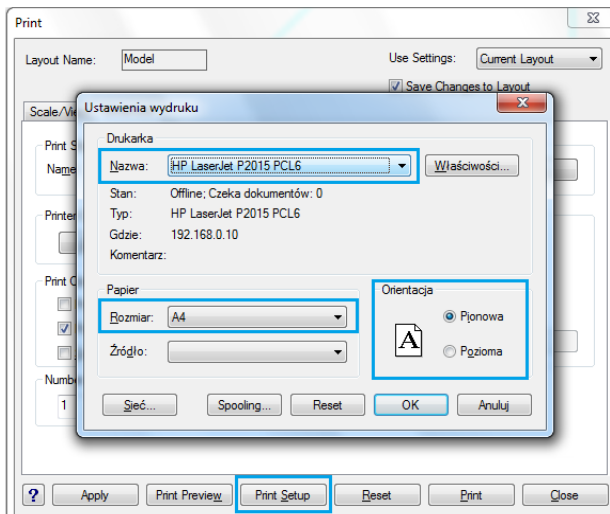

Fig. 320 – printout settings
- then click the **Print Setup** button and select the printer, size of the page (e.g. A4, A3) and orientation - vertical or horizontal (Fig. 320).